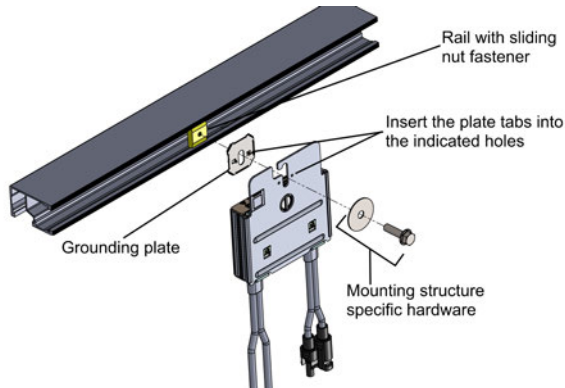

Figure 6: Power optimizer installation and grounding using a grounding plate
- **For mounting on rails with sliding nut fasteners:** If the star washer cannot be used, use the SolarEdge grounding plate (purchased separately) between the railing and the flat side of the mounting bracket. Use mounting specific hardware as needed. Apply torque of 9.5 N*m / 7 lb*ft. See *Figure 6*